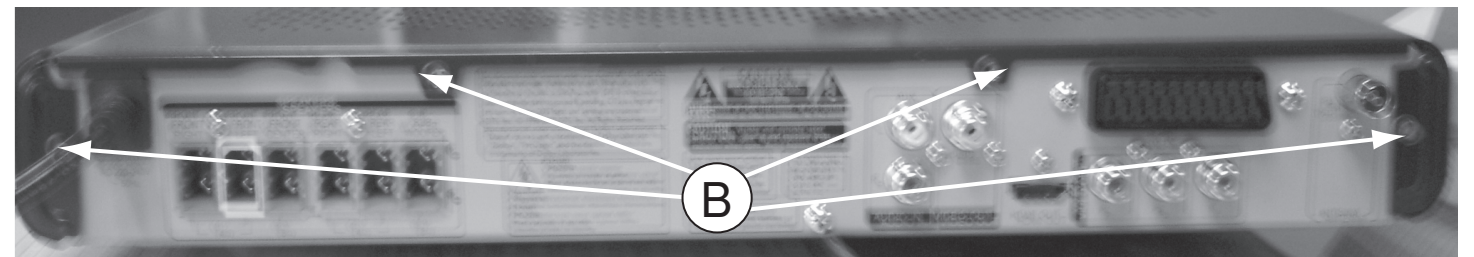

Figure 5
- 4 screws "B" at the back panel as shown in figure 5.